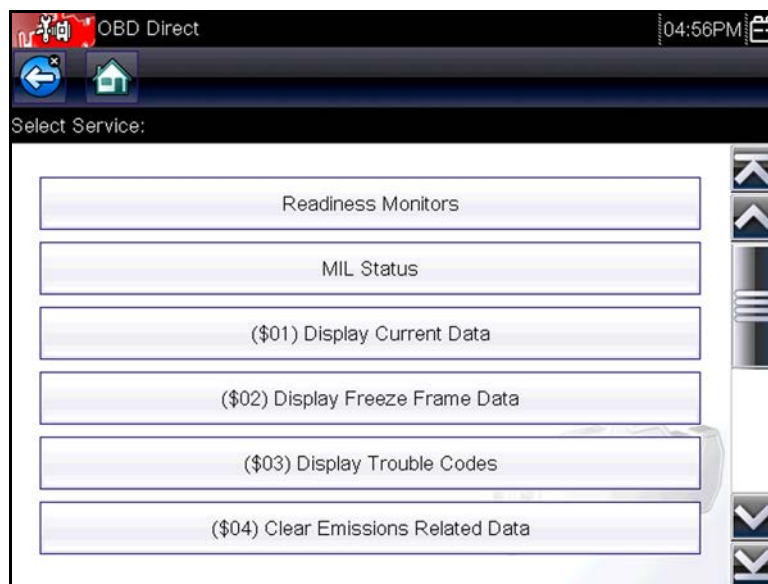

Figure 6-3 Sample Start Communication menu
A menu of available tests displays (Figure 6-3):
6. Select a test to continue, options include (Figure 6-3):